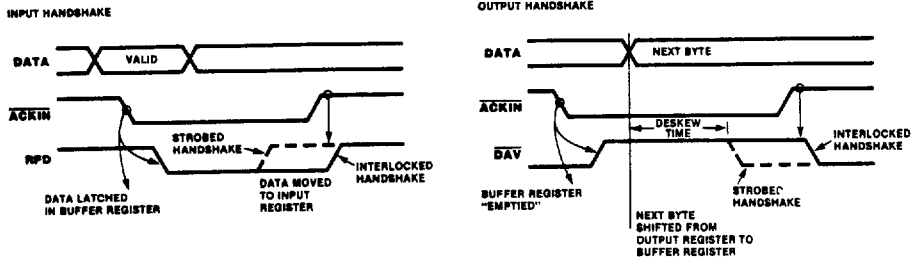

Figure 7. Interlocked and Strobed Handshakes
**Interlocked Handshake.** In the Interlocked Handshake mode, the action of the Z-CIO must be acknowledged by the external device before the next action can take place. Figure 7 shows timing for Interlocked Handshake. An output port does not indicate that new data is available until the external device indicates it is ready for the data. Similarly, an input port does not indicate that it is ready for new data until the data source indicates that the previous byte of the data is no longer available, thereby acknowledging the input port's acceptance of the last byte. This allows the Z-CIO to interface directly to the port of a Z8 microcomputer, a UPC, an FIO, an FIFO, or to another Z-CIO port with no external logic.
**Strobed Handshake.** In the Strobed Handshake mode, data is "strobed" into or out of the port by the external logic. The falling edge of the Acknowledge Input ( $\overline{ACKIN}$ ) strobes data into or out of the port. Figure 7 shows timing for the Strobed Handshake. In contrast to the Interlocked Handshake, the signal indicating the port is ready for another data transfer operates independently of the  $\overline{ACKIN}$  input. It is up to the external logic to ensure that data overflows or underflows do not occur.